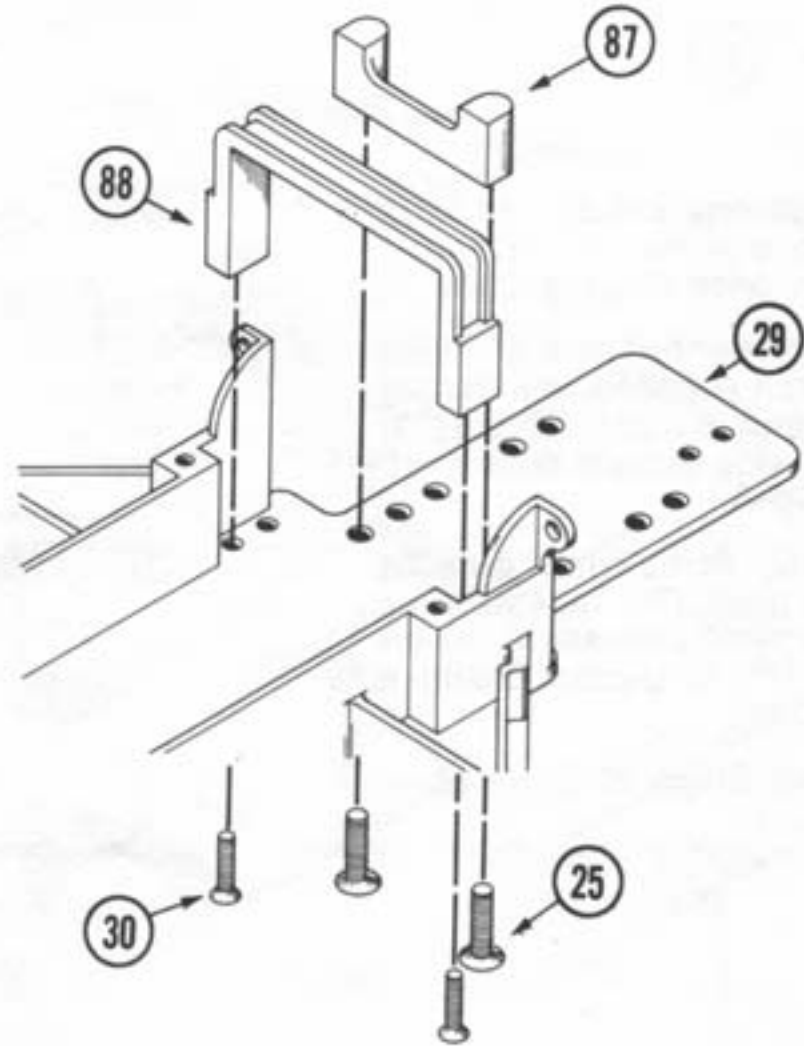

Figure 30
1. Attach rear battery spacer (87) to the chassis (29) with two 8-32 x 1/2" flathead screws (25). Use the forward two holes in the rear of chassis (29) Fig. 30
2. Secure rear battery strap (88) to the chassis (29) using two 4-40 x 3/8" flathead screws (30). Use the forward holes in chassis (29). Fig. 30